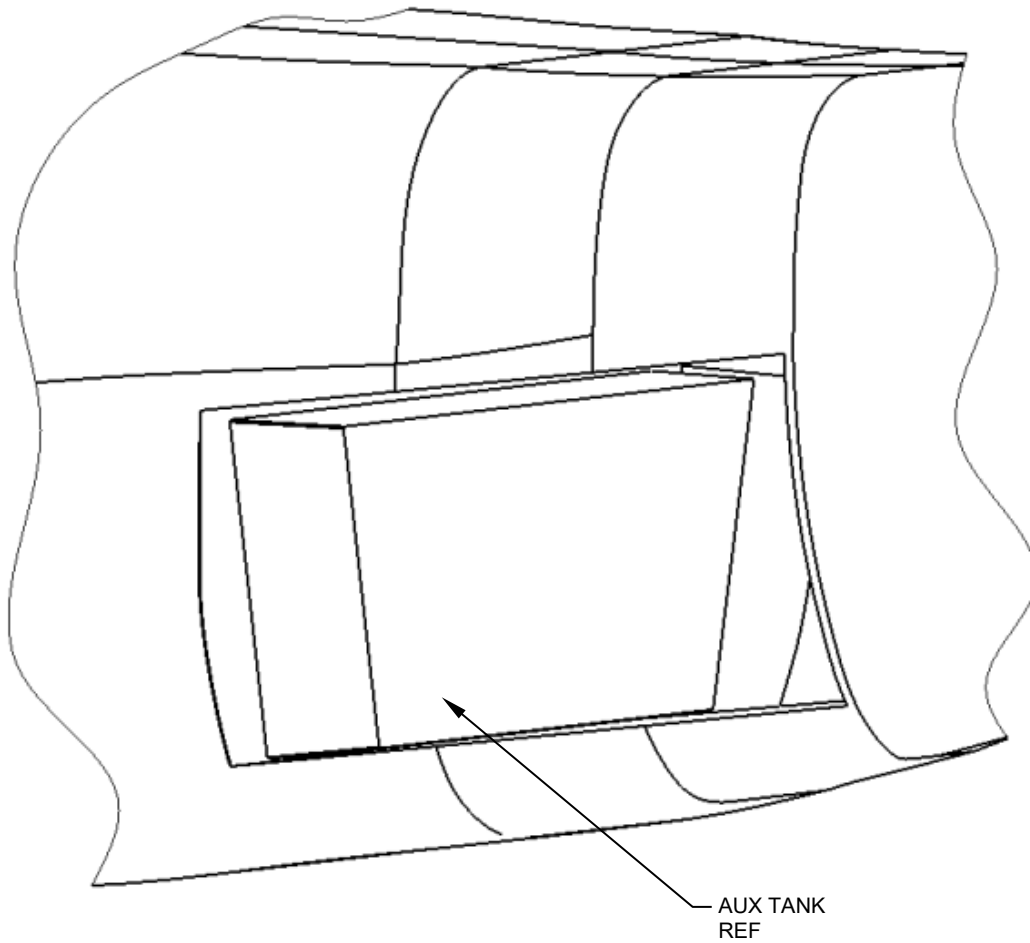

Figure 1
1. Gain access to the aux tank. Reference Figure 1.